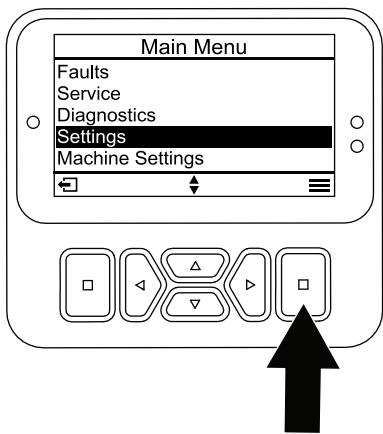

Figure 26
1. From the MAIN MENU, scroll down to the SETTINGS menu and press the select button (Figure 26).